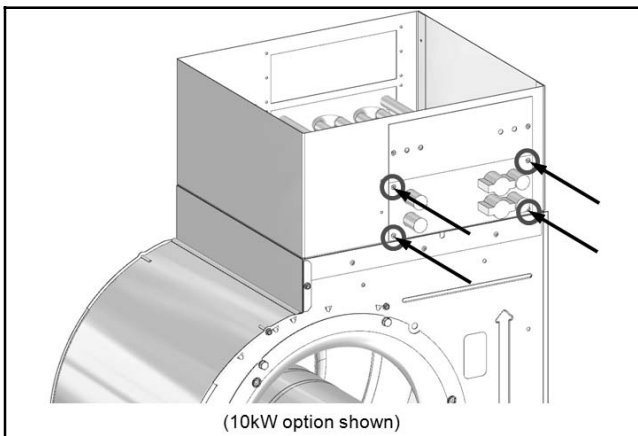

Fig. 10 — Secure Insert with Supplied Sheet Metal Screws
9. Secure each insert with four of the supplied sheet metal screws (see Fig. 10)